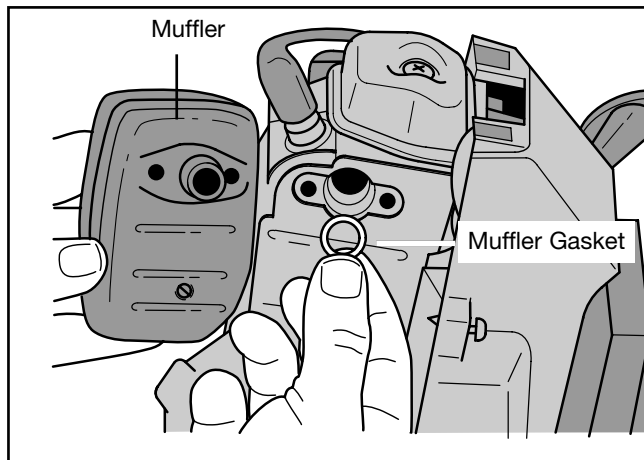

Fig. 46
2. Install the muffler with the three (3) mounting bolts. Install the lower bolt first to ease the installation of the top two (2) bolts (Fig. 46).